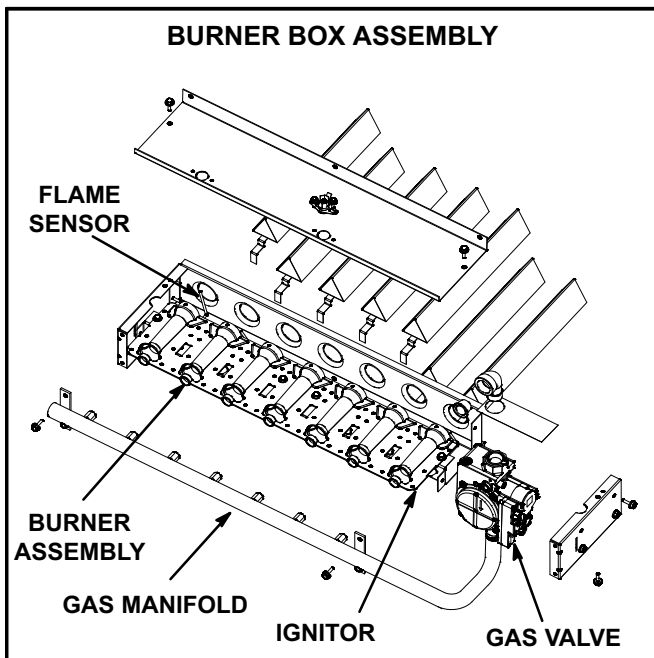

FIGURE 29
- 3- Remove top burner box panel and screws securing burners to burner support and lift the individual burners or the entire burner assembly from the orifices. See figure 29. Clean as necessary.
- 5- Replace burners and screws securing burner. See figure 29.